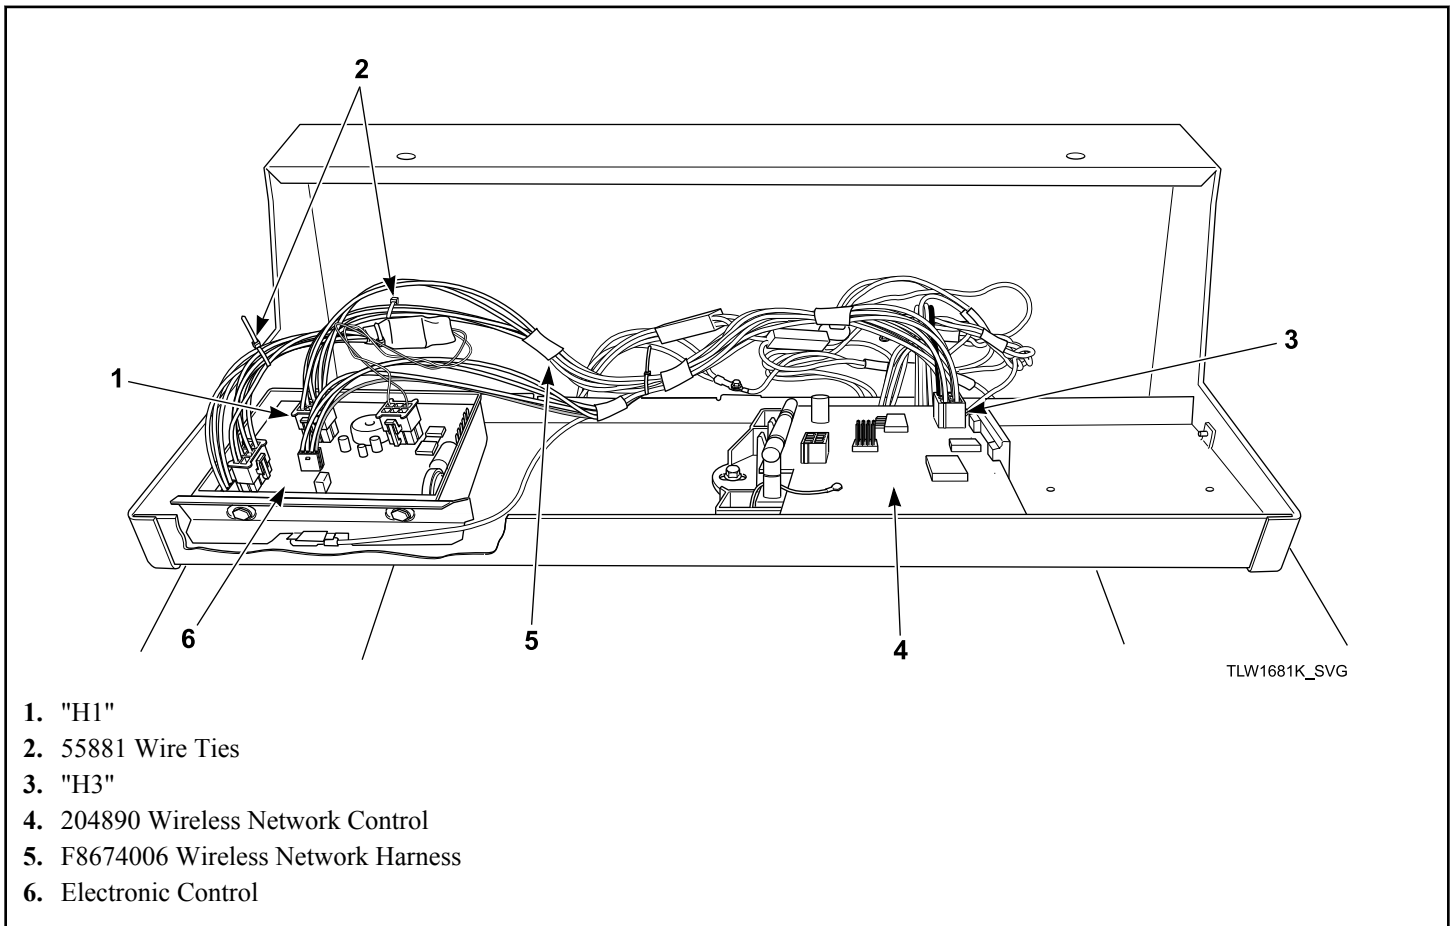

Figure 4
7. Install F8674006 Wireless Network Harness between network board "H3" and the electronic control "H1". Refer to *Figure 4*.
8. Secure the F8674006 Wireless Network Harness using the (2) 55881 Wire Ties as shown in *Figure 4*.